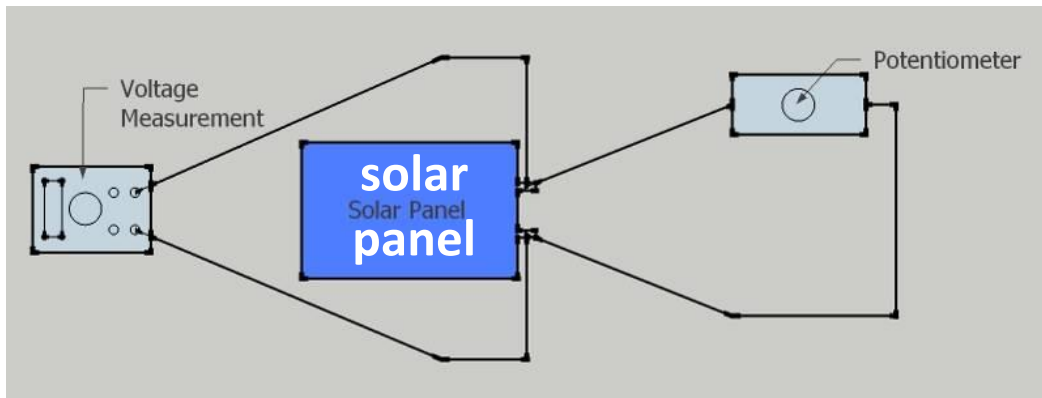

Figure 1: The electrical circuit configuration to measure voltage.
5. Assemble the circuit, as shown in **Figure 1**.